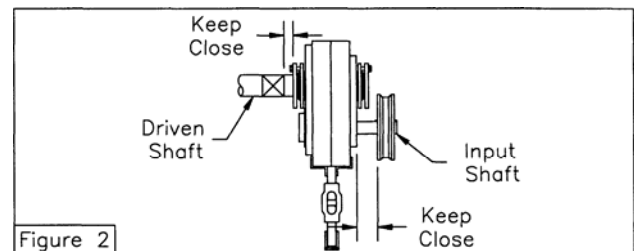

Figure 2
4. Install sheave on input shaft as close to reducer as practical. (See Fig. 2)